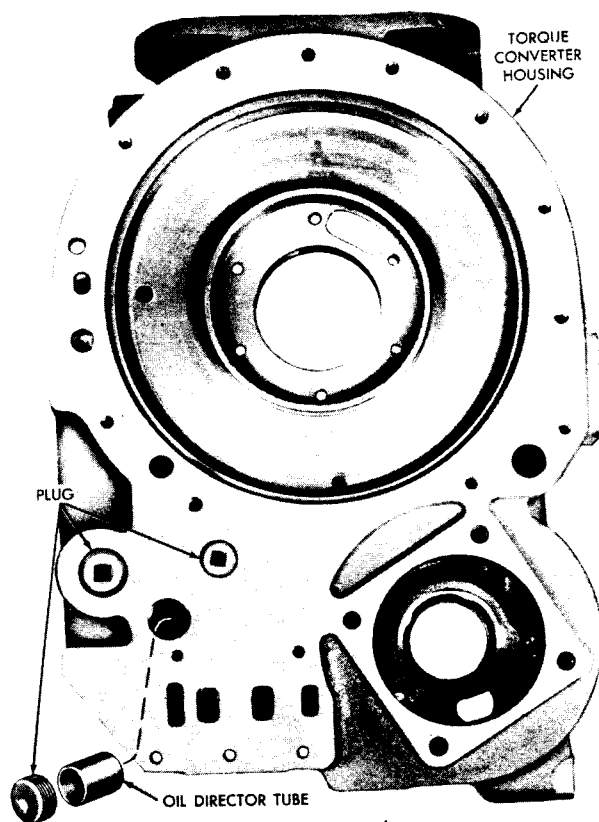

Fig. VI-20. Components at rear of converter housing
(17) Turn the converter housing over and remove three plugs from the rear of the converter housing (fig. VI-20). When the transmission is equipped for connection to a remote-mounted oil filter, an oil director tube is installed in the converter housing. Remove it, if necessary, for cleaning.
(2) If a remote-mounted oil filter is used with the transmission, install the oil director tube into the converter housing (fig. VI-20).